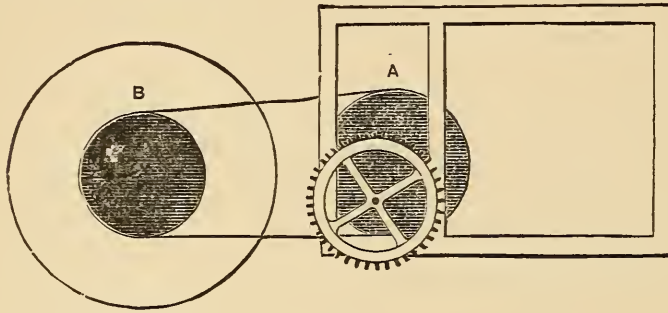

Fig. 10.
Prepare the works as for the yacht model, and also insert a pulley (A), as shown in Figs. 10 and 5. This is connected with another pulley (B, Fig. 10),